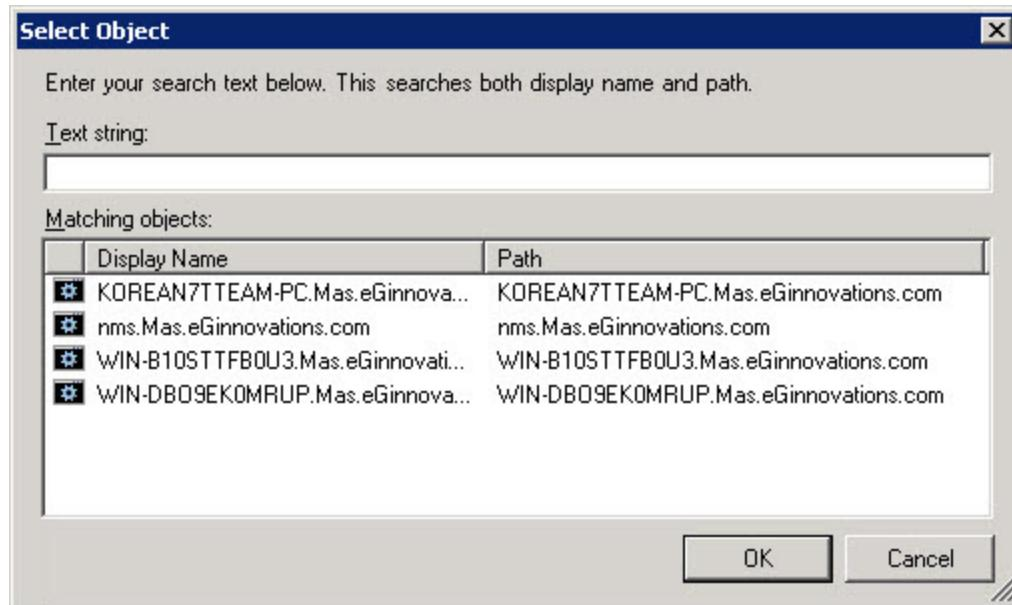

Figure 3.19: Choosing the server on which the eG SCOM Connector is running
7. Figure 3.19 then appears. Like before, from Figure 3.19, select the server on which the eG SCOM Connector service is running, and click the **OK** button therein.